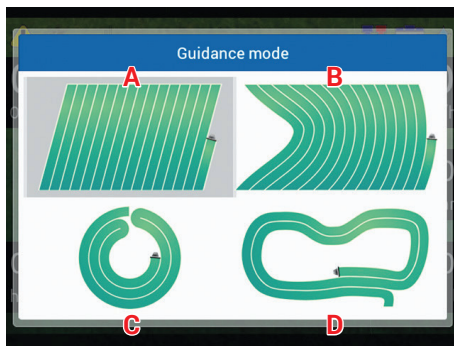

Fig. 356
- 3 Select a guidance mode (Fig. 356): press **F4** and **F6** to move across the available items (**A - Straight guidance mode**, **B - Curved guidance mode**, **C - Pivot mode** or **D - Free guidance mode**)